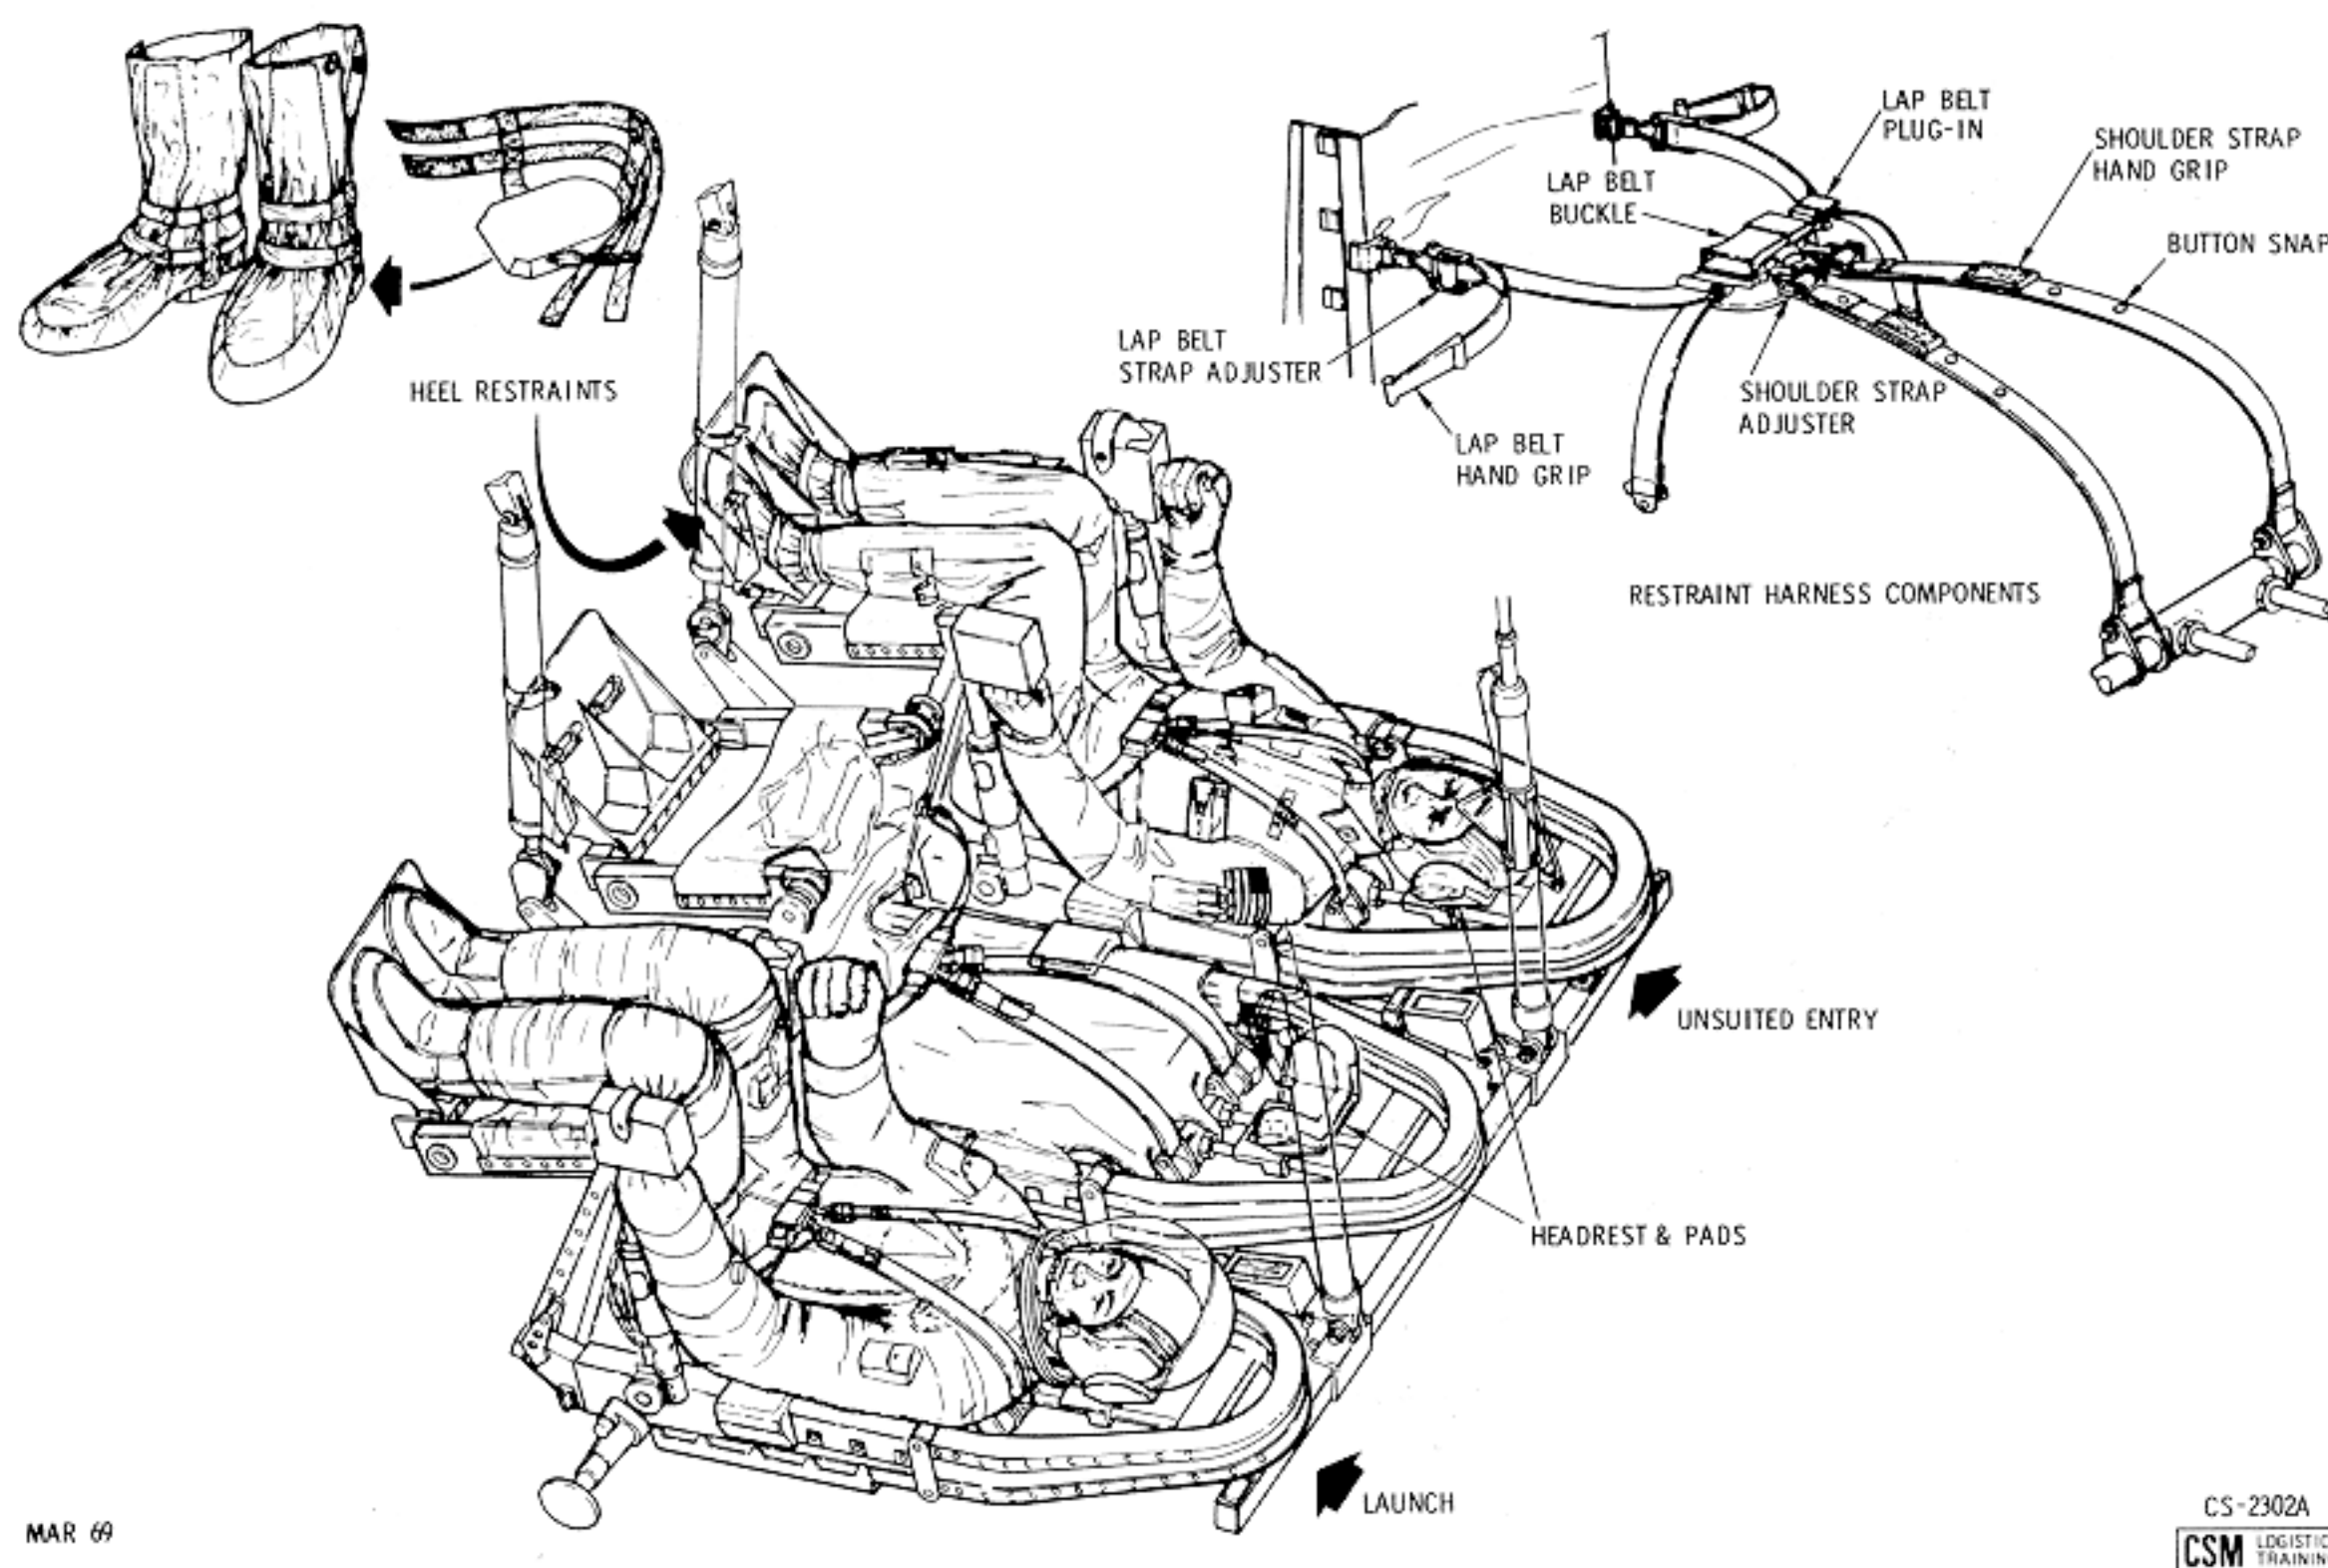

Figure 2.12-7. Crewman Restraint Harness Subsystem With Heel Restraints
2.12.3.1.1 Crewman Restrain Harness (Figure 2.12-7).